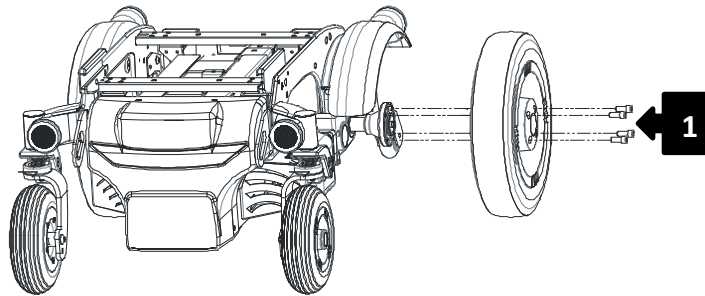

Figure 52
Chock up the wheelchair so that the wheel turns freely, unscrew the screw (1) indicated in Figure 52 and remove the wheel.